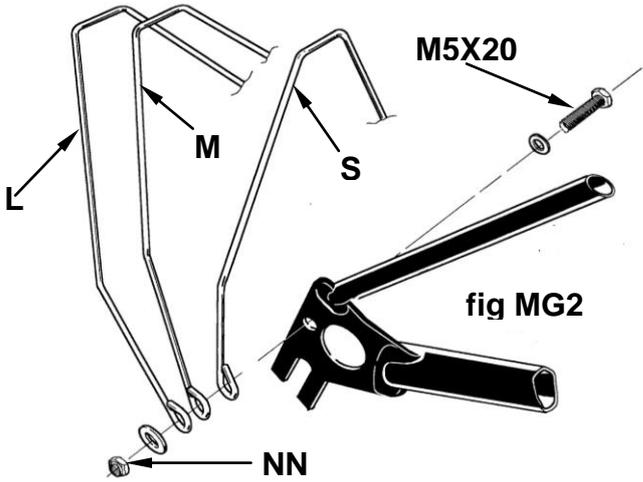

fig MG2
4. Non-dynamo kit: fit the mudguard stays to the rear axle plates. These must be assembled as shown, fig MG2, the M5x20 screw passing through the following items in order: a) M5 washer, b) the axle plate c) the front stay S (the shortest of the three stays), d) the middle stay M, e) the rear stay L (the longest stay), f) M5 washer, and g) into the nyloc nut NN. Do up the nut, but not tight at this stage, and leave the stays lying out of the way pointing rearwards.
Dynamo kit: stay F (fig MG10) replaces stay S (fig MG2). The assembly of the stays is as before with the following difference: the order of assembly at the rear axle plate is as shown in fig MG10 with the bracket G on the RH side.